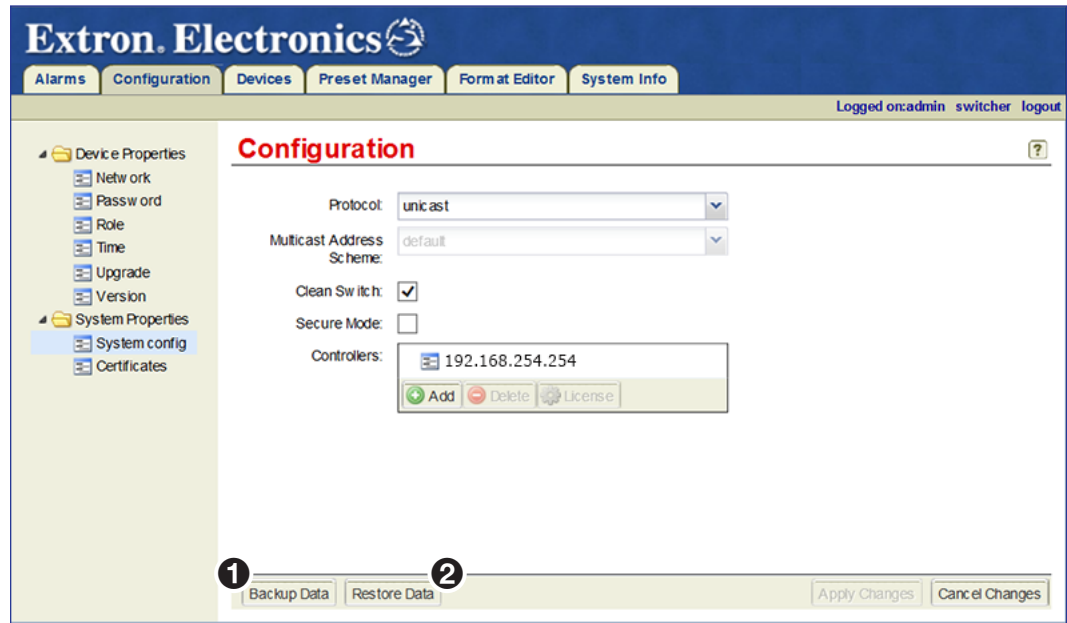

Figure 173. Configuration Tab - Backup and Restore Data
The **Backup** and **Restore** buttons backup and restore configured devices on the **Devices** page and presets on the **Preset Manager** page (see figure 173).
1. From the **Configuration>System Properties>System Config** page, click **Backup Data** (see figure 173, 1 above).
1. On the Configuration>System Properties>System config page (see figure 173, ②, on page 185), click **Restore Data**.